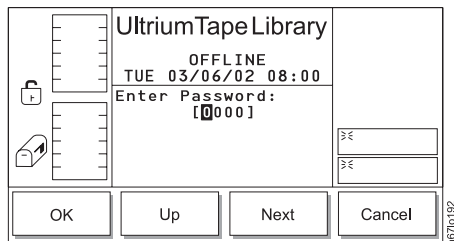

Figure 4-126. Enter Password Dialog
3. Press the button below the **Secure** softkey. The Enter Password Dialog displays (see Figure 4-126).